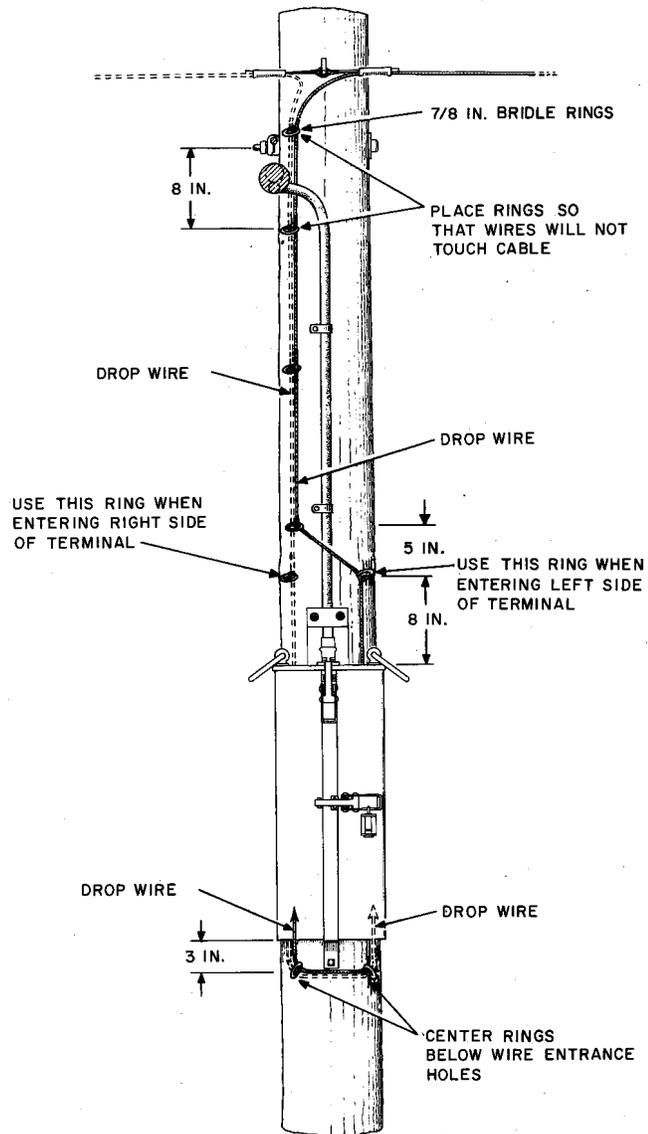

Fig. 13—Running Drop Wire at Cross-Connecting Terminal
- (a) Place bridle rings on the pole as shown in Fig. 13.